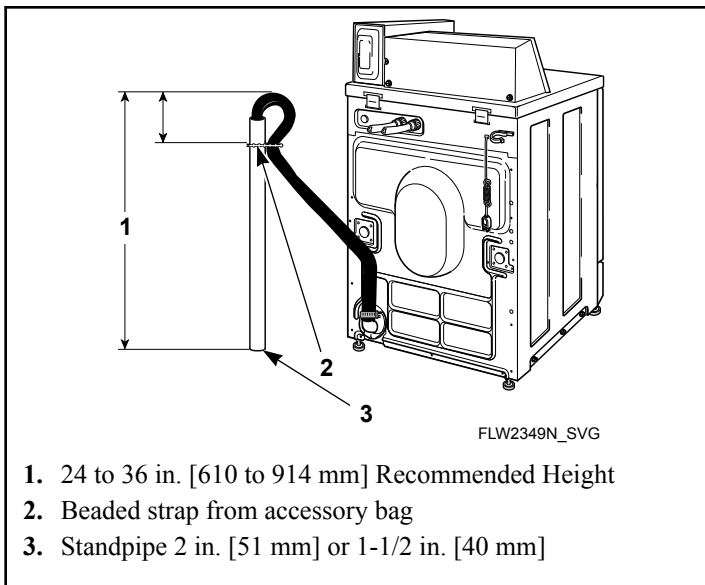

Figure 10
2. Remove the beaded tie-down strap from accessories bag and place around standpipe and drain hose and tighten strap to hold hose to standpipe. Refer to Figure 10 . This will prevent the drain hose from dislodging from drain receptacle during use.